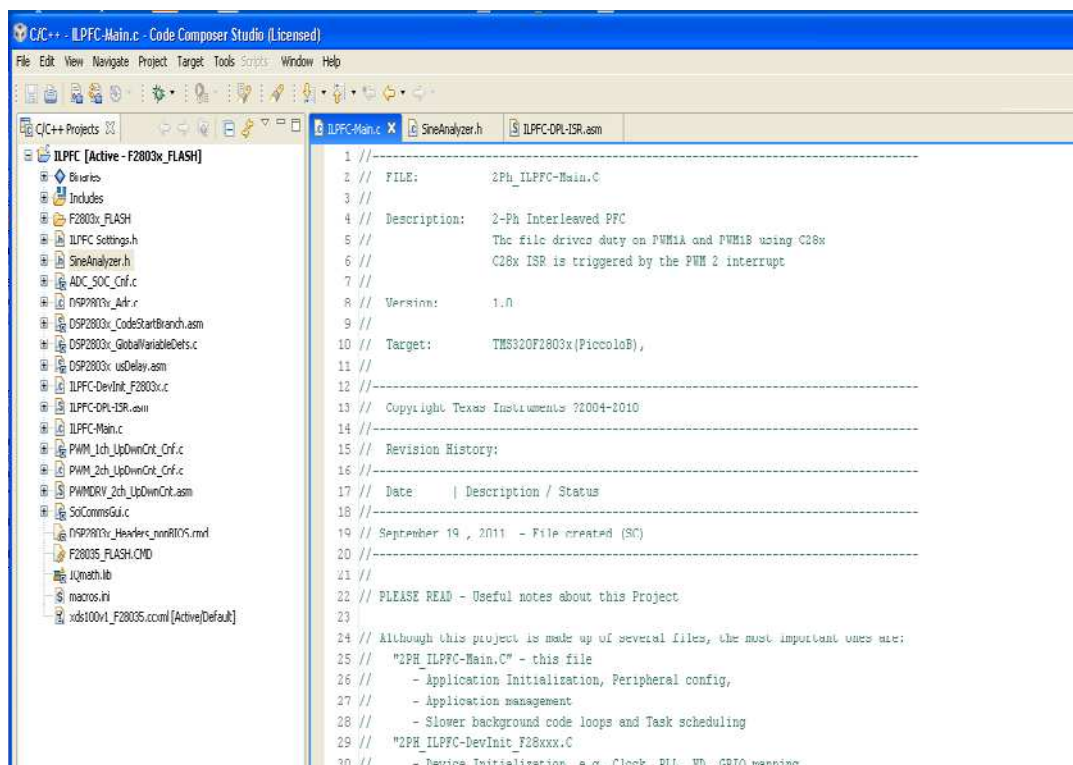

Figure 9. CCS Project Window
3. In the project window on the left, click the plus sign (+) to the left of Project. Your project window will look like the following in Figure 9: